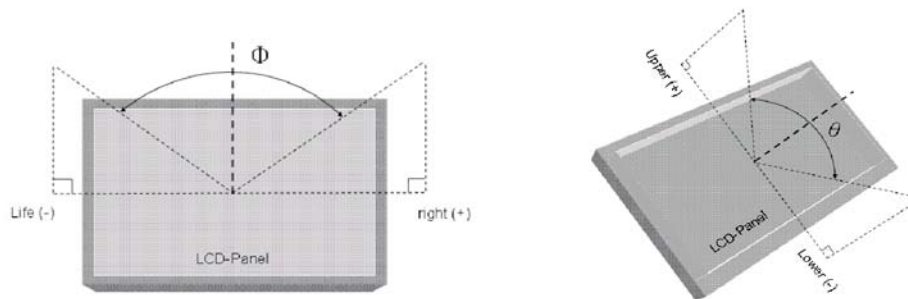

Fig 3-4 Definition of Viewing Angle
- *4) Definition of Viewing Angle(ϕ, θ), refer to Fig 3-4 as below: